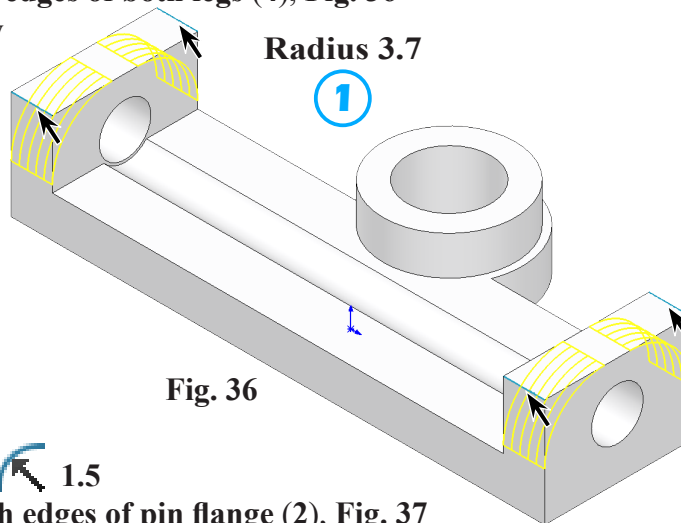

Fig. 36
① **Radius**  3.7
click top edges of both legs (4), Fig. 36